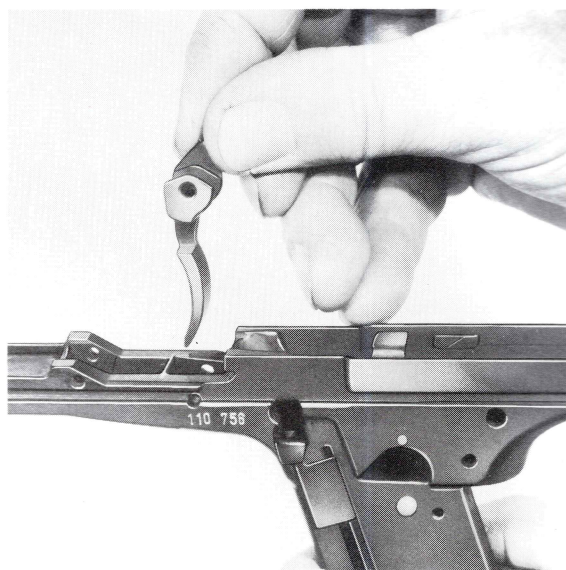

Fig. 31
- Insert the trigger (4) from above (Fig. 31).